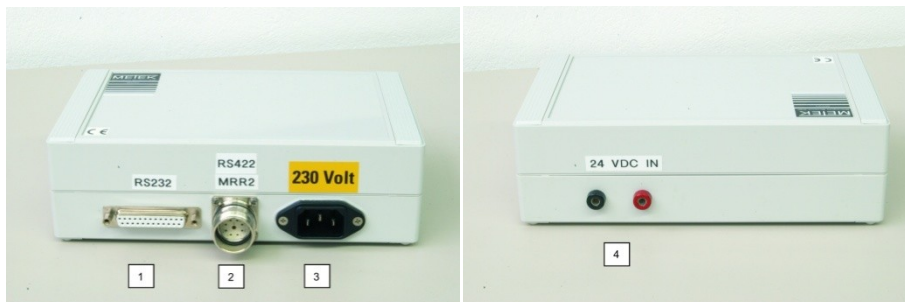
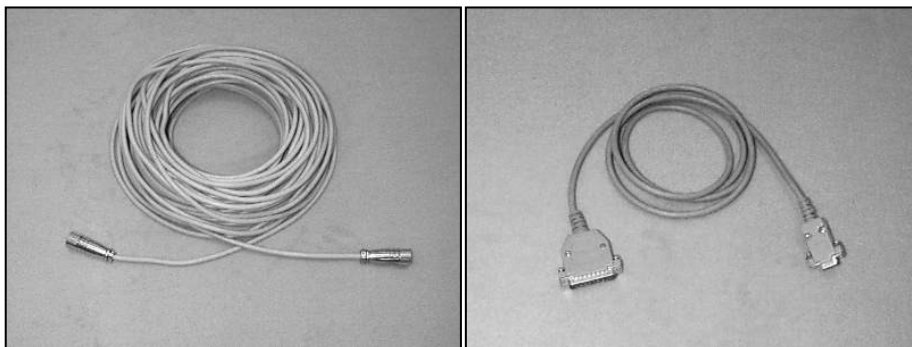

Figure 4: Junction Box, Left: Front Side, Right: Back Side
Figure 5: Control Cable (left) and Serial Cable (right)
The **RADAR Control and Processing Device** RCPD (see Figure 3) generates the RADAR transmit modulation signal and passes it to the transceiver (see Figure 3). It analyses the backscattered receiver signal, calculates Doppler spectra and transfers average power spectra (referred to as “raw spectra”) to the MRR-PC, where these spectra are interpreted. The RCPD has a water protected IP65 housing, which is fixed to the antenna arm (see Figure 3). At the bottom side of the RCPD is the socket (see Figure 3) for the control cable (see Figure 5). The electronic components inside the housing don't need any service. As far as possible the RCPD should not be opened by the user.
The junction box is used to pass through the communication between the PC and the RCPD. For this purpose it has a 25-pin D-sub-miniature socket for the serial cable (see Figure 5) to the MRR-PC and a flanged socket for the control cable (see Figure 5) to the RCPD.
The power supply for the RCPD and Transceiver is also integrated in the junction box. An IEC connector for the mains supply of 230 VAC is on the front side of the case. On the back side are two sockets for banana plugs for the connection of an alternative external DC power supply (see Figure 4). The power supply (24 VDC) for the RCPD and Transceiver is also passed through the control cable (see Figure 5).
6. Connect serial cable (Figure 5) to the serial interface of the MRR-PC, which was selected in the operating system for the connection of the MRR-2. If this serial port is unknown, it can be looked up in the administration of the "services" in the operating system of the computer and it can be changed accordingly there. See also installation of the control program chapter 6.